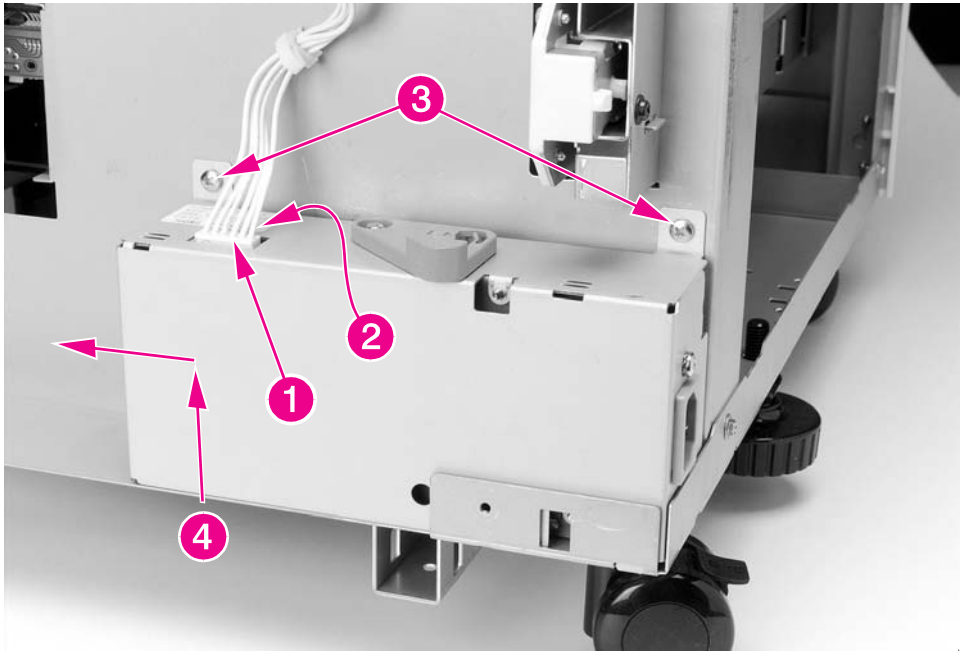

Figure 6-74 2000-sheet Input Tray Power Supply
- 2 Locate the cable that runs from the Controller PCA on the 2000-sheet Input Tray to the unit's Power Supply (Figure 6-74, callout 1). Disconnect the cable from the Power Supply by pushing on the retaining tab that is located behind the cable connector (callout 2).